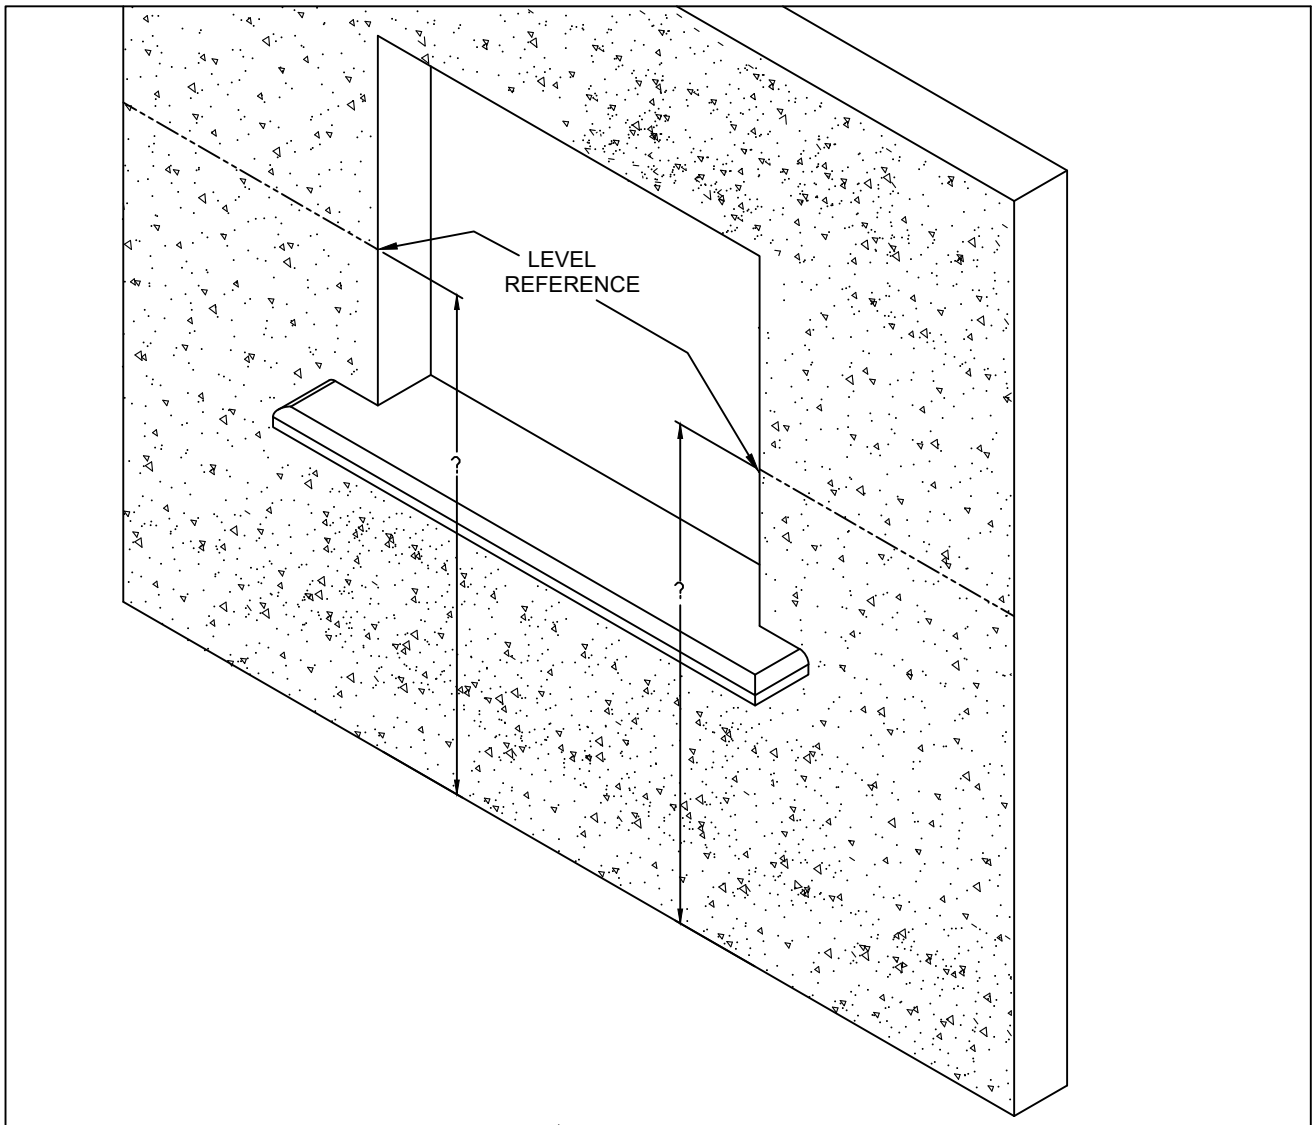

FIGURE 6
- a. Create level elevation marks at left and right jamb faces using a level reference device or survey instrument as shown in Figure 6.